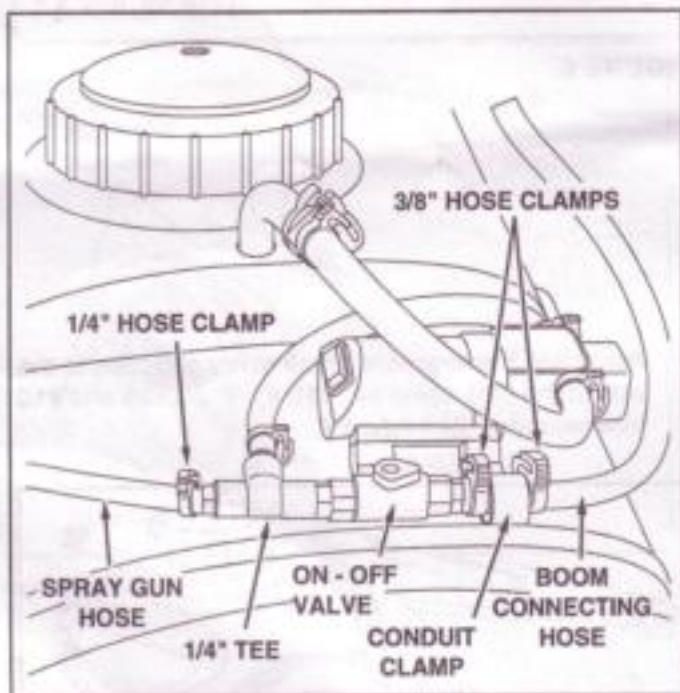

FIGURE 8
12. Slide a 3/8" hose clamp onto the boom connecting hose. Place the end of the hose through the conduit clamp attached to the pump, then slide a second 3/8" hose clamp onto the hose. Leave hose clamps loose for now. See Figure 8.
13. Push the hose onto the hose adapter in the end of the "On-Off" valve. Tighten the hose clamp around the hose and adapter. See figure 8.
14. Position the valve and hose clamp up against the conduit clamp. Slide the other hose clamp against the other side of the conduit clamp. Tighten the clamp without collapsing the hose. See figure 8.
15. Slide the 1/4" hose clamp onto the spray gun hose and then push the hose onto the hose adapter on the 1/4" tee fitting. Tighten the hose clamp around the hose and adapter. See figure 8.